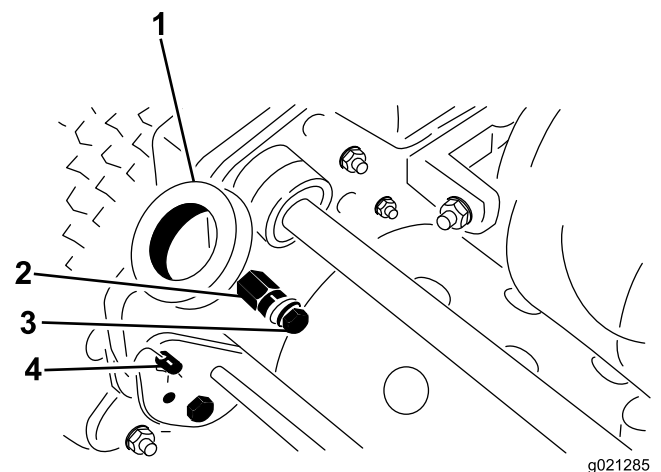

Figure 2
- Remove the bolts, locknuts, and washers securing the bottom of the handle arms to each side of the mower (Figure 2).
- Remove the hairpin cotters and ring pins securing the handle arms to the rear of the frame (Figure 2).
- Insert the handle ends through the holes in the handle arms and align the holes with the mounting pins (Figure 2).
1. Remove the hairpin cotters from the ring pins on each side of the mower (Figure 2).
2. While supporting the handle, remove the ring pins from each side and raise or lower the handle to the desired operating position (Figure 2).